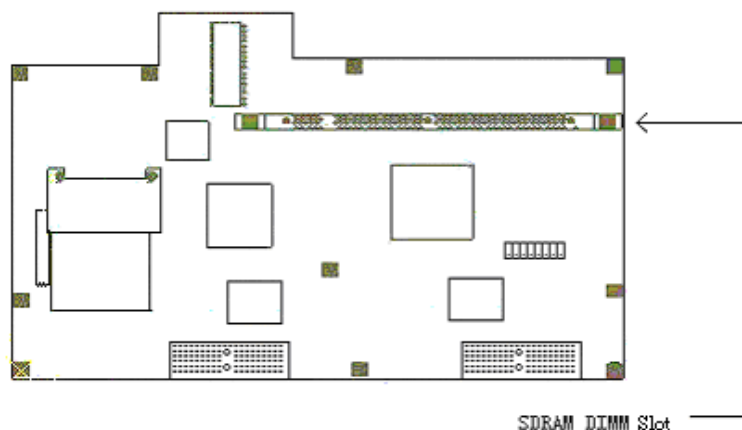

Fig. 1
Step3: Use screwdriver to take off the screws (refer fig1 below), and keep the screws aside.
Step1: Follow the arrows in figure 1 and put the cover by matching corresponding screw holes.